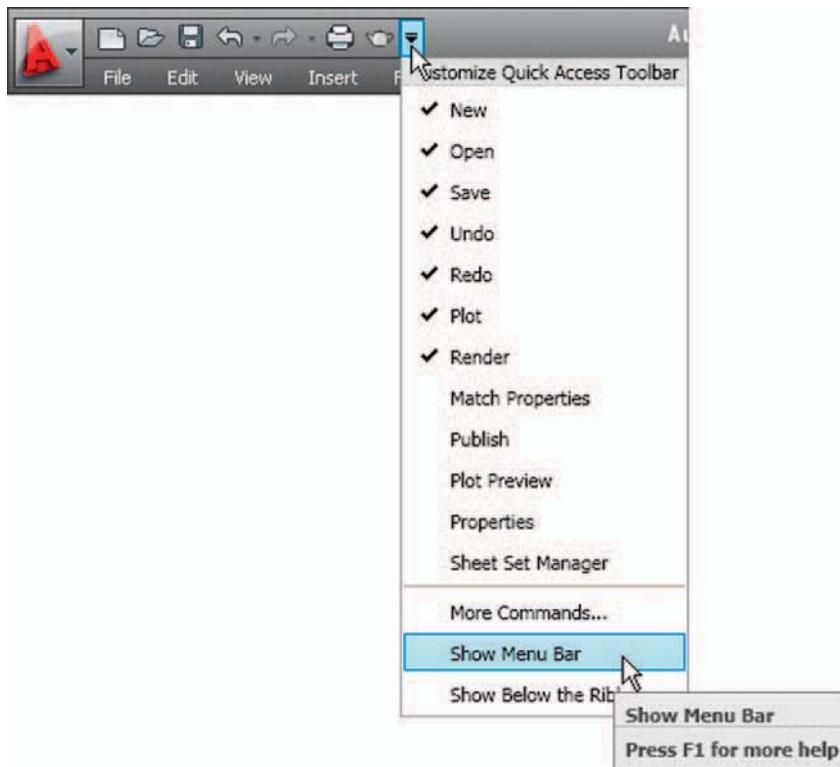

Fig. 3.4 Selecting **Show Menu Bar** from the *left-click* menu in the **Quick Access Toolbar**
3. By *clicking* on the tool's name in an appropriate drop-down menu. Fig. 3.3 shows the tool names and icons displayed in the **Draw** drop-down menu. It is necessary to first bring the menu bar to screen with a *click* on **Show Menu Bar** in the *left-click* menu of the **Quick Access** toolbar (Fig. 3.4) if the menu bar is not already on screen.